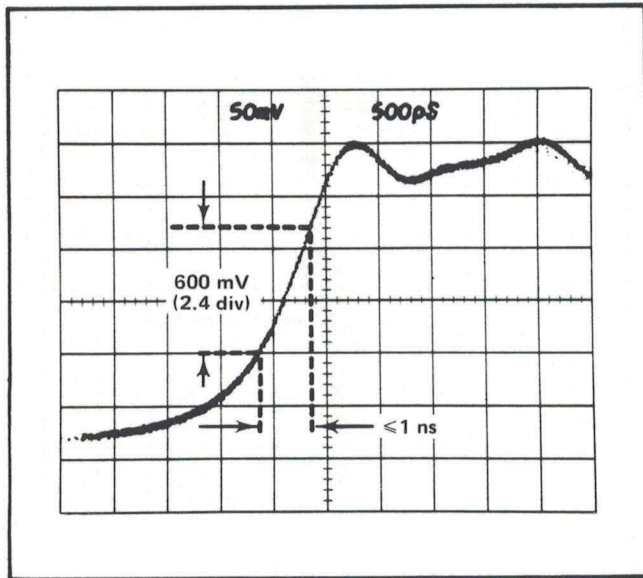

Fig. 5-2. Waveform of Pretrigger Out leading edge showing Rise Rate. (5X attenuator used in signal path.)
b. Check that a portion of the rise is greater than 600 mV (2.4 divisions) in 1 ns. See Fig. 5-2.
b. Check any portion of the rise to be greater than 600 mV (2.4 divisions) in 1 ns. See Fig. 5-2.